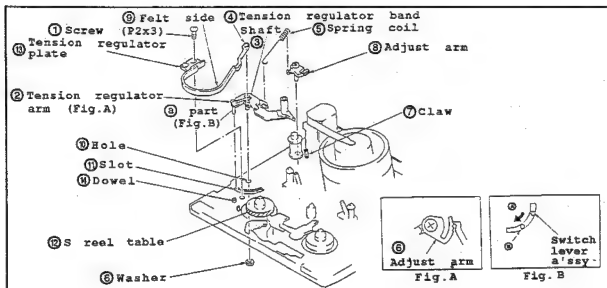

Fig.II-18
• Disassembling (Fig.II-18)
- (1) In the same procedures in "3-5", detach the TL plate.
- (2) Remove the screw ①.
- (3) Take off the tension regulator band from the shaft ③ of tension regulator arm ② by using a thin screwdriver or equivalent.
- (4) Remove the spring coil ⑤.
- (5) Remove the washer ⑥ from the rear side of mechanical chassis.
- (6) To detach the adjust arm ⑧, unhook the claw ⑦.
*Note: When detaching the tension regulator band ④, be careful not to twist or fold it. Also, when detaching it, do not touch the felt side ⑨ and drop the oil.
• Reassembling (Fig.II-18)
- (1) Mesh the adjust arm ⑧ with the position indicated in the Fig. A, then, hook the claw ⑦.
- (2) Apply the 1/2 drop of oil to the hole ⑩.
- (3) Attach the tension regulator arm ② to the slot ⑪ while inserting ③ part inside of switch lever assembly. (A indicated by an arrow.) (Fig.B)
- (4) While pressing the tension regulator arm ② from the front side of chassis, secure it with a washer ⑥ from the rear side.
- (5) Hook the spring coil ⑤ to the adjust arm ⑧ and the tension regulator arm ②, respectively. The direction of coil is as indicated in the Fig.
- (6) Attach the tension regulator band ④ to the shaft ③ of the tension regulator arm ② while fitting the felt side ⑨ onto the shadow area of S reel table ⑫.
- (7) Assemble the tension regulator plate ⑬ of the tension regulator band ④ while aligning it with the dowel ⑭ of chassis. Then, secure it with the screw ①.
- (8) In the same procedures in "3-5", attach the TL plate.
- (9) In the same procedures in "3-21", perform the tension regulator adjustment.
- (10) In the same procedures in "3-22", perform the back tension adjustment.